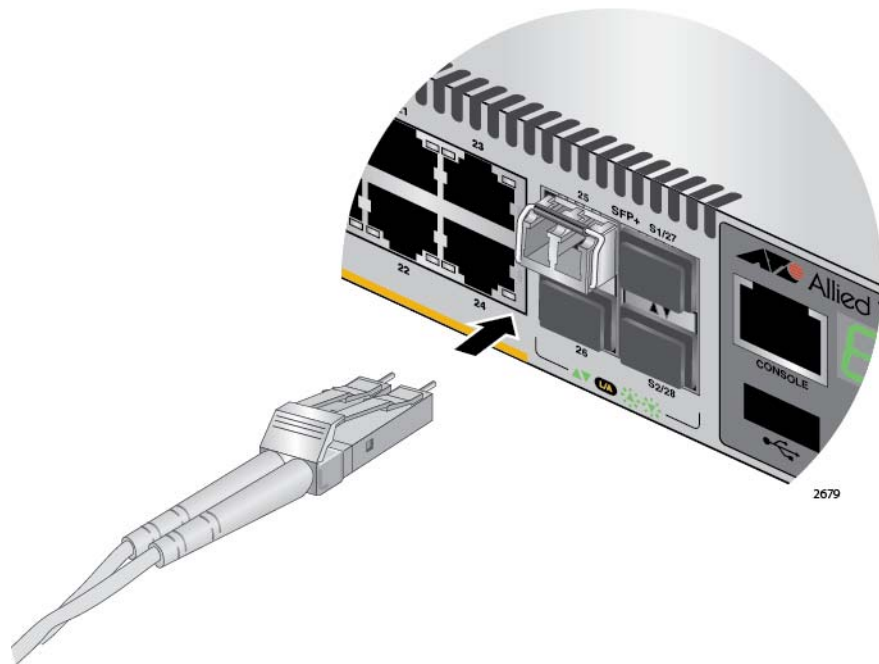

Figure 51. Connecting a Fiber Optic Cable to an SFP or SFP+ Transceiver
7. Connect the fiber optic cable to the transceiver, as shown in Figure 51. The connector on the cable should fit snugly into the port, and the tab should lock the connector into place.